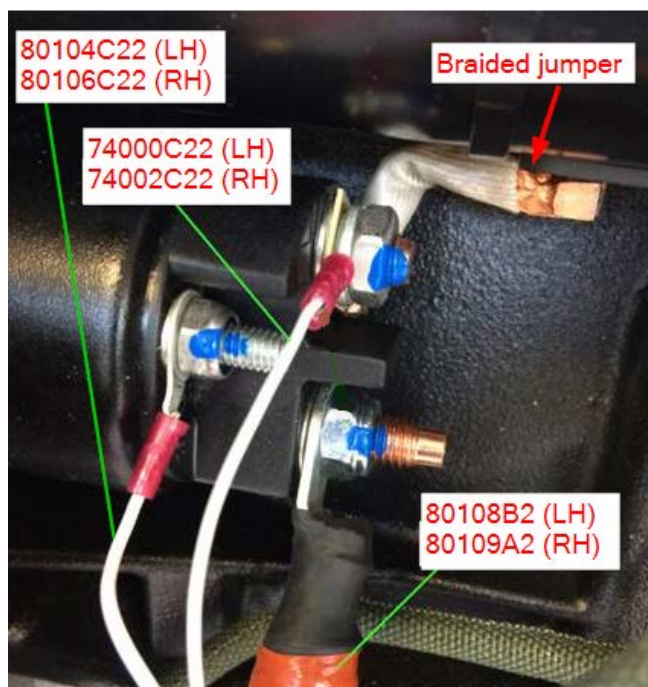

Figure 1 - Correct starter wiring connection.
3. Inspect the starter wirings for correct connection. Refer to Figure 1.
4. If the wire 74000C22 or 74002C22 is connected to the same attachment as the braided jumper as shown in Figure 1, that means that the connection is correct and you can proceed to step 8.
6. Remove wire 74000C22 or 74002C22 from the incorrect location, and reinstall it in the correct location. Refer to Figure 1.